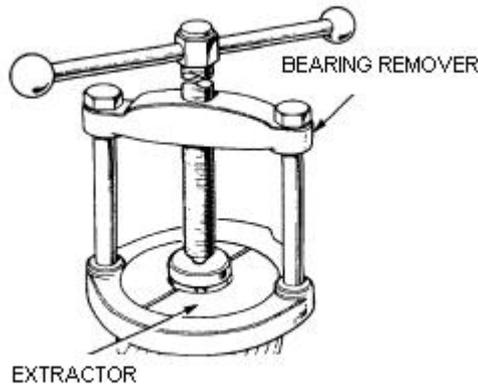

Figure 155 Removing the Countershaft Bearing
- s. Using the bearing remover (Table 3, Serial 38) and the extractor (Table 3, Serial 39), remove and discard the bearing cones from the countershaft (Figure 155).